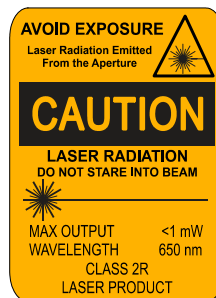

Fig. 4-2
- Observe safety measures for operation with devices containing sources of laser radiation. See the warning label on the back panel of the instrument (Fig. 4-2).